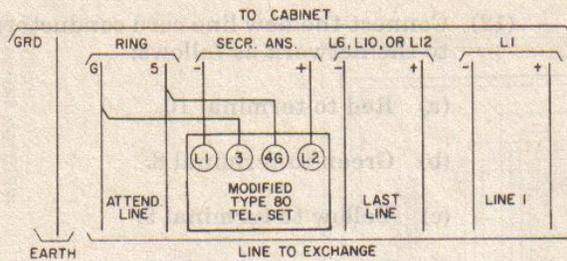

Figure 4. Connections for Attendant's Telephone Set, Alternate Arrangement C.
2.08 Alternate method C is identical to method B except for the means of furnishing the ringer on the attendant's line. A standard desk telephone set is modified as explained in Paragraphs 2.09 through 2.14 to provide a ringer bridge separate from the conversation path. The self-contained ringer is then wired across the attendant's line as shown in Figure 4. This arrangement is useful at locations where it is not convenient to mount an external ringer box.